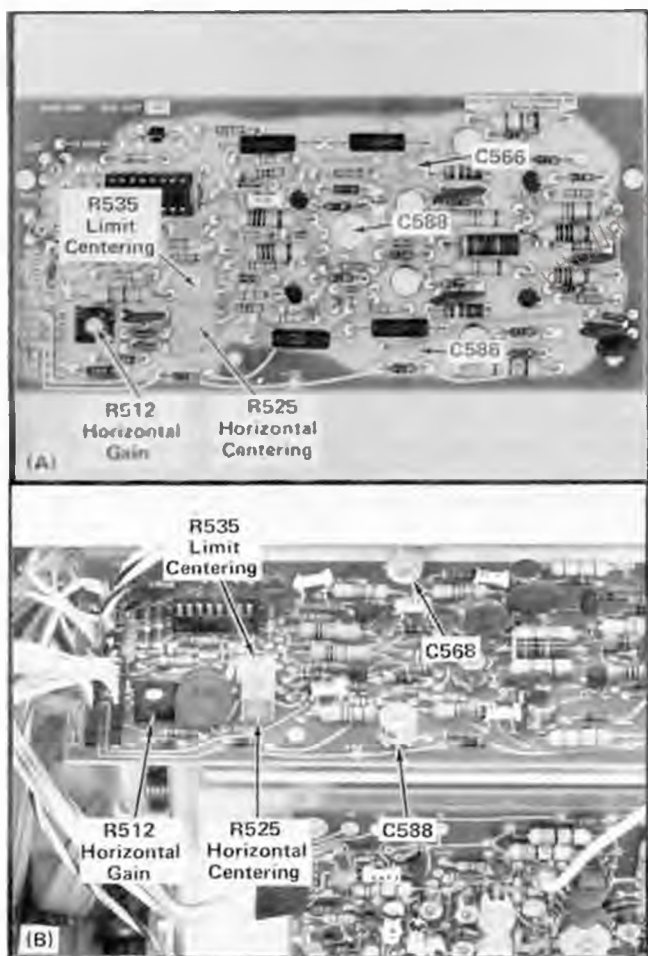

Fig. 3-6. Location of Horizontal adjustments (Horizontal Amplifier board). (A) SNB030000-up; (B) Below SNB030000.
h. ADJUST—Limit Centering adjustment R535 (see Fig. 3-6) to match the DC levels of both waveforms.
c. ADJUST—Horizontal Centering adjustment R525 (see Fig. 3-6) to position the spot to the vertical center line.
f. ADJUST—Horizontal Gain adjustment R512 (see Fig. 3-6) for exactly eight divisions of deflection between the second and tenth traces.